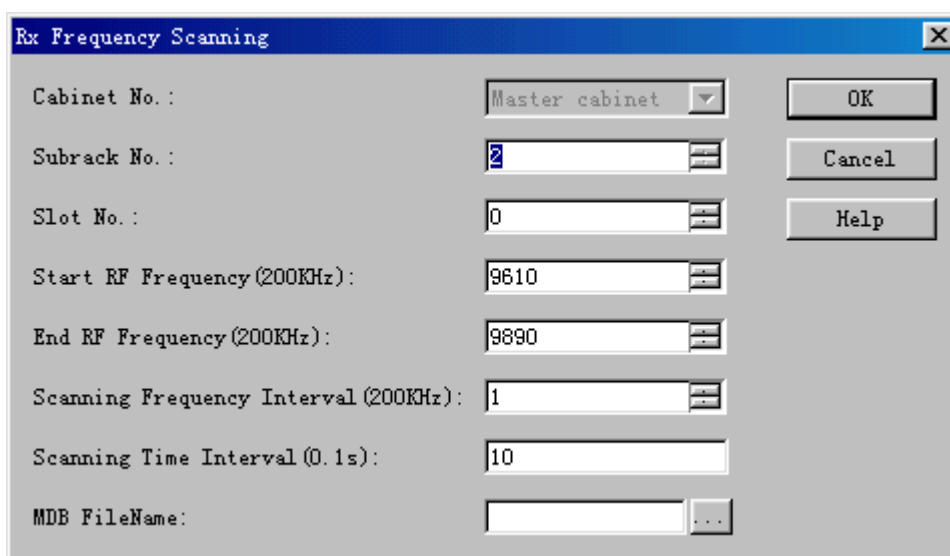

Figure 9-5 Rx Frequency Scanning dialog box
- 2) Click **Create Monitor Task**. The system displays the **Rx Frequency Scanning** dialog box, as shown in Figure 9-5.